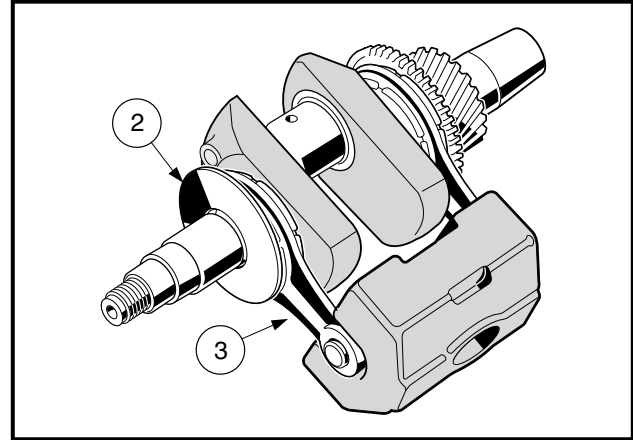

Figure 13-75 Crankshaft and Counterbalance
2. Pull out the crankshaft and the counterbalance together as an assembly (Figure 13-75, Page 13-36).
1. Slide the spacer (2) and the link rod (3) off the flywheel end of the crankshaft. Remove the counterbalance from the remaining link rod (Figure 13-75, Page 13-36). **Go to Link Rod Inspection on page 13-37.**